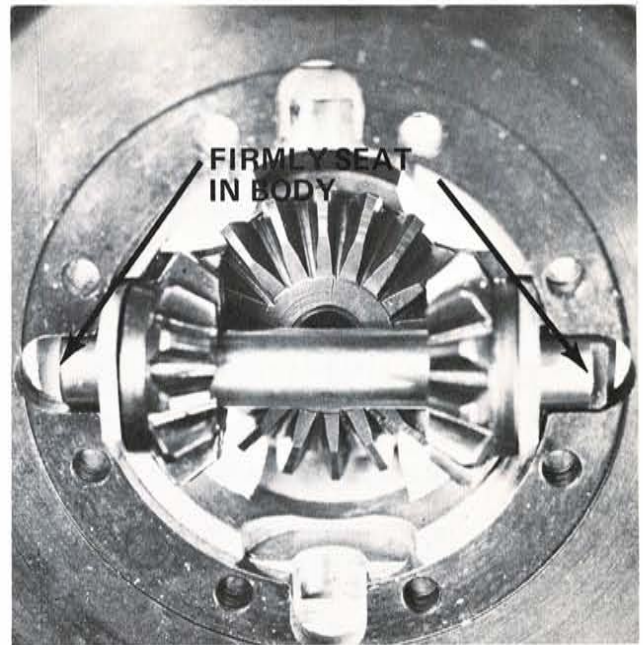

Fig 18
4. Insure that pinion pin is seated properly. Install differential body and axle mounting shaft. (Fig 18)